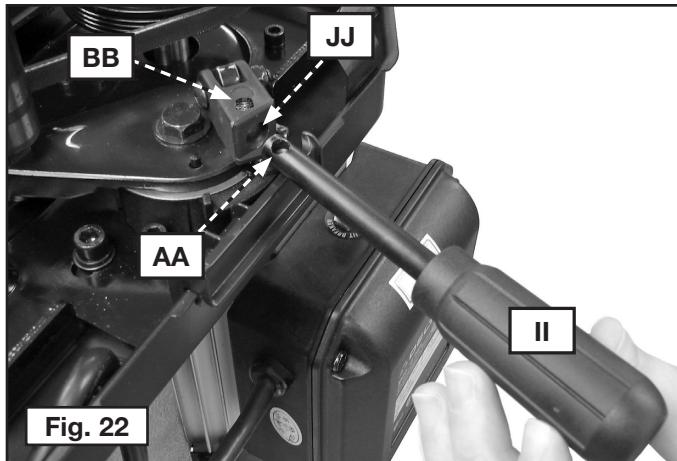
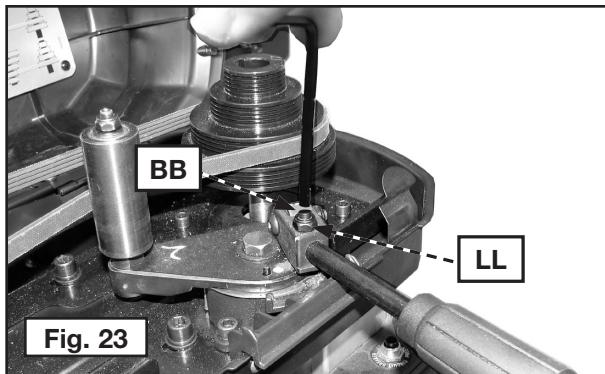

Fig. 22
Fig. 23
To attach the belt tension lever handle (II) Fig. 22, place it in hole (JJ) with the hole (AA) up, as shown.
Align set screw (BB) with hole (AA) Fig. 22 and tighten screw down into hole firmly with included hex wrench as shown in Fig. 23.
Place M6 x 1 locknut (LL) Fig. 23 on set screw (BB).